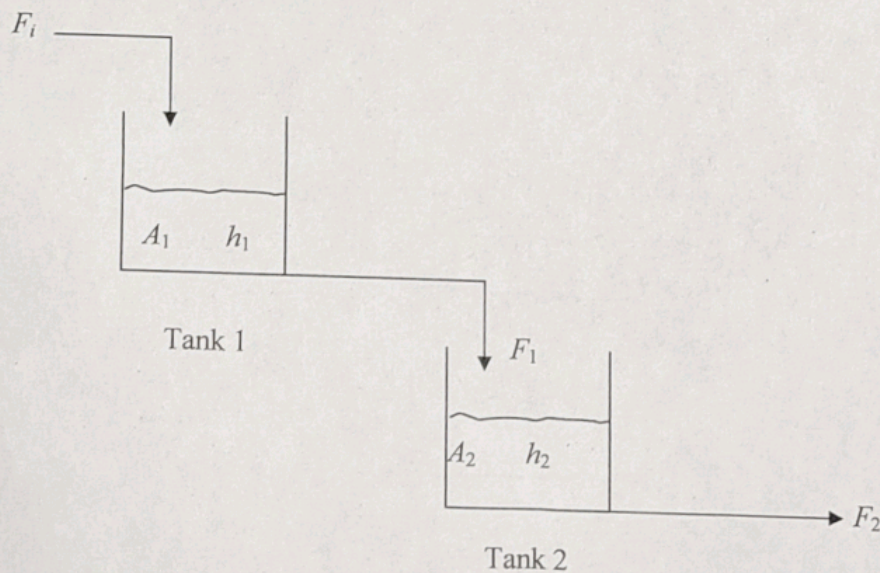

Fig. 2: Two noninteracting tanks in series.
- (e) Two noninteracting liquid tanks having the following transfer functions are connected in series (see Figure 2):